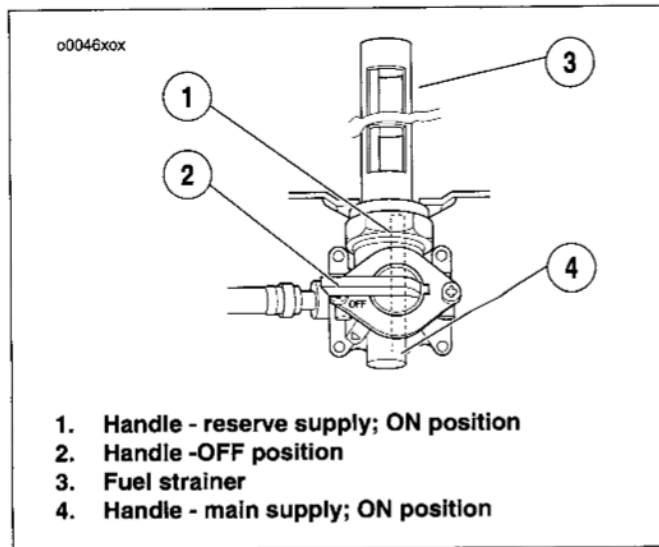

Figure 21. Fuel Supply Valve
- See Figure 21. Turn the handle (Item no. 2) to the horizontal position to turn OFF main fuel supply.